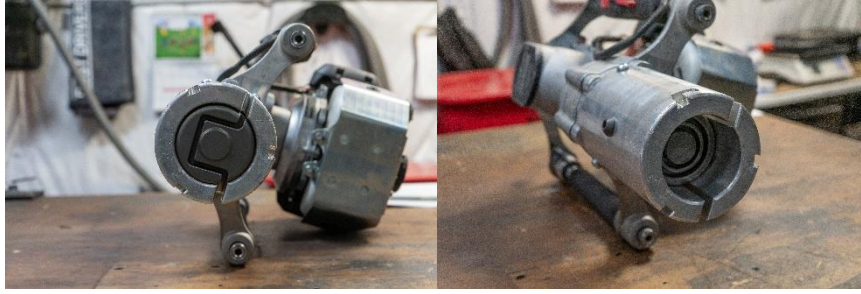

Figure 3: Installing the drive cap on a PGD4000X-PFR
- To install the drive cap, press and rotate the barrel cap to release it. Slide the drive cap into the barrel ensuring the recessed channel aligns with the bolt hole on the barrel. For winged posts ensure the cut out of the drive cap aligns with slots in the barrel. Utilizing the included hardware, bolt the drive cap into the barrel so that it is able to slide up and down on the post while remaining contained in the driver. See Figure 3.